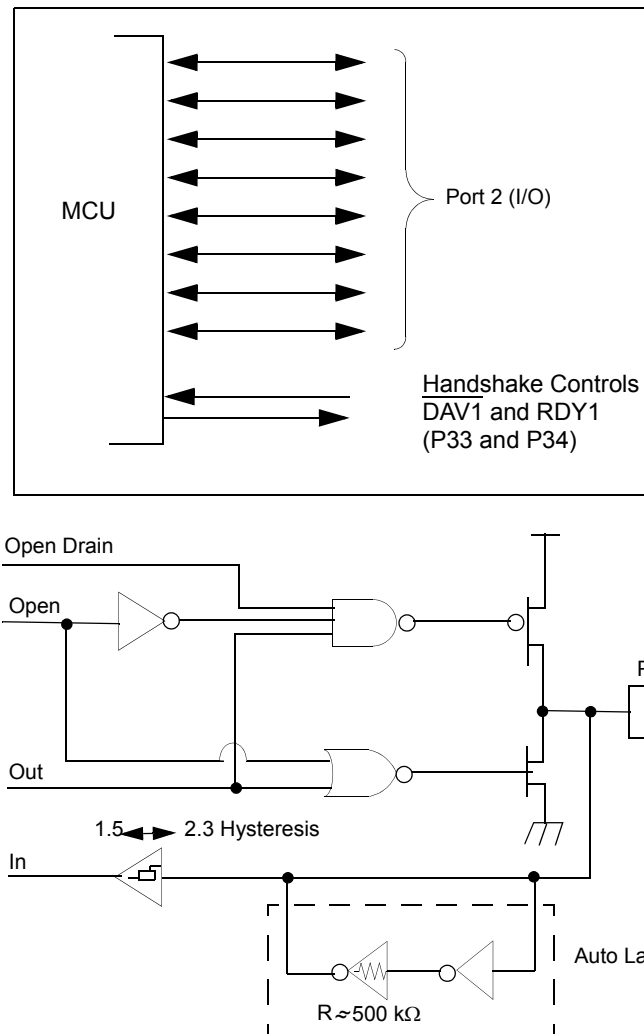

**Figure 19. Port 1 Configuration (Z86E43/743/E44 Only)**
**Port 1 (P17-P10).** Port 1 is an 8-bit, bidirectional, CMOS-compatible port with multiplexed Address (A7-A0) and Data (D7-D0) ports. These eight I/O lines can be programmed as inputs or outputs or can be configured under software control as an Address/Data port for interfacing external memory. The input buffers are Schmitt-triggered and the output buffers can be globally programmed as either push-pull or open-drain. Low EMI output buffers can be globally programmed by the software. Port 1 can be placed under handshake control. In this configuration, Port 3, lines P33 and P34 are used as the handshake controls RDY1 and  $\overline{\text{DAV1}}$  (Ready and Data Available). To interface external memory, Port 1 must be programmed for the multiplexed Address/Data mode. If more than 256 external locations are required, Port 0 outputs the additional lines (see Figure 19).